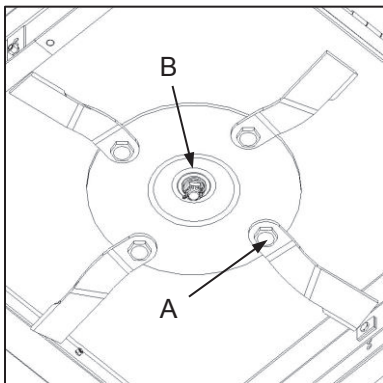
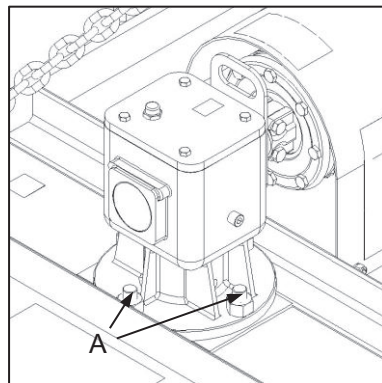
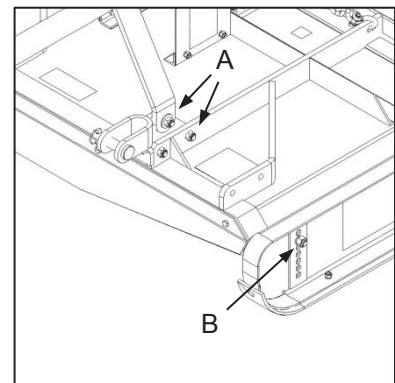

Fig. 1
Fig. 2
Fig. 3
- ✔ Check all fasteners for tightness. This includes special attention to safety-critical fasteners such as blade bolts and nuts (Fig. 1-A), blade disc retaining nuts (Fig. 1-B), gearbox mounting bolts (Fig. 2-A), topmast mounting and pivot bolts (Fig. 3-A) and side panel retaining bolts (Fig. 3-B).
- ✔ Verseker dat alle hegstukke vas is. Dit sluit in spesiale aandag aan veiligheidskritieke hegstukke soos lemboute en -moere (Fig. 1-A), lemskyfkeermoere (Fig. 1-B), ratkasmonteerboute (Fig. 2-A), topmas- monteer- en -spilboute (Fig. 3-A) en sypaneel- keerboute (Fig. 3-B).